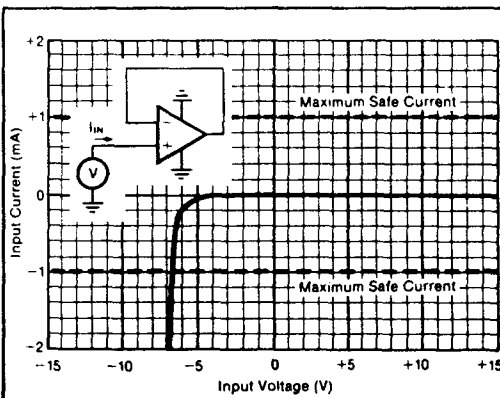

FIGURE 2. Input Current vs Input Voltage with $\pm V_{cc}$ Pins Grounded.
- (1) Packages must be derated based on $\theta_{JC} = 150^\circ\text{C/W}$ or $\theta_{JA} = 300^\circ\text{C/W}$.
- (2) For supply voltages less than $\pm 18\text{VDC}$ the absolute maximum input voltage is equal to $+18\text{V} > V_{in} > -V_{CC} - 6\text{V}$. See Figure 2.
- (3) Short circuit may be to power supply common only. Rating applies to $+25^\circ\text{C}$ ambient. Observe dissipation limit and T_J .